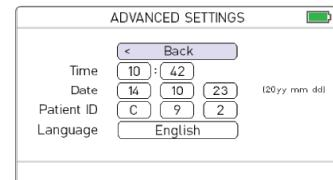

Figure 45. Advanced Settings
2. Press  to access ADVANCED SETTINGS (See Figure 45). Here you can adjust the Time, Date, Patient ID and Language.
1. In ADVANCED SETTINGS (See Figure 45) Select Time.
1. In ADVANCED SETTINGS (See Figure 45) Select Date.
1. In ADVANCED SETTINGS (See Figure 45) Select Patient ID.
1. In ADVANCED SETTINGS (See Figure 45) Select Language.